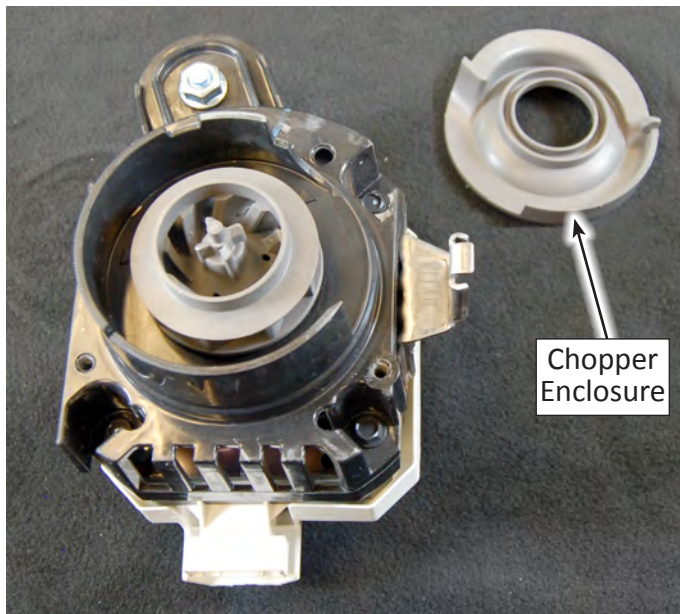

Figure 8
10. Remove Chopper Enclosure from the motor assembly (see Figure 8).